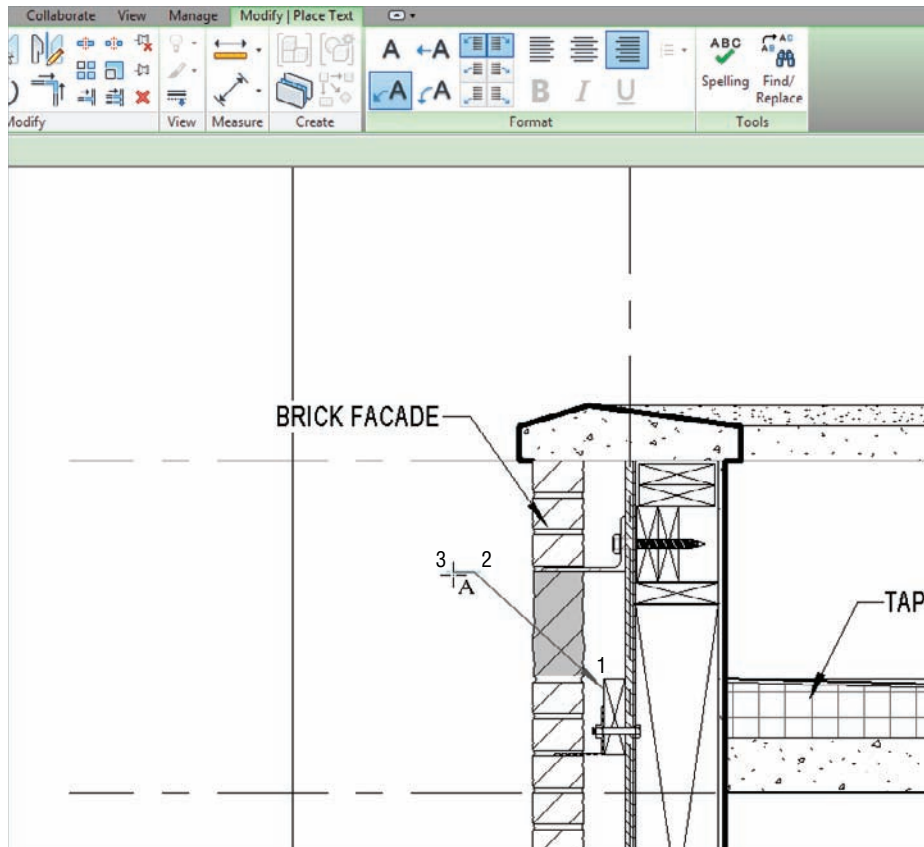

FIGURE 12.57 Adding the leadered text
2. On the Modify | Place Text tab, click the Align Right button on the Format panel, as shown at the top of Figure 12.57.
3. Again, on the Modify | Place Text tab, click the Two Segments leader (the uppercase A in the lower-left corner of the Format panel; see Figure 12.57).
5. In the section, pick the first point of the leader at the top of the brick tie detail (labeled 1 in Figure 12.57).
6. Pick the second point above and to the left of the first point (labeled 2 in Figure 12.57).
7. Pick the third point for the second segment, as shown in Figure 12.57.